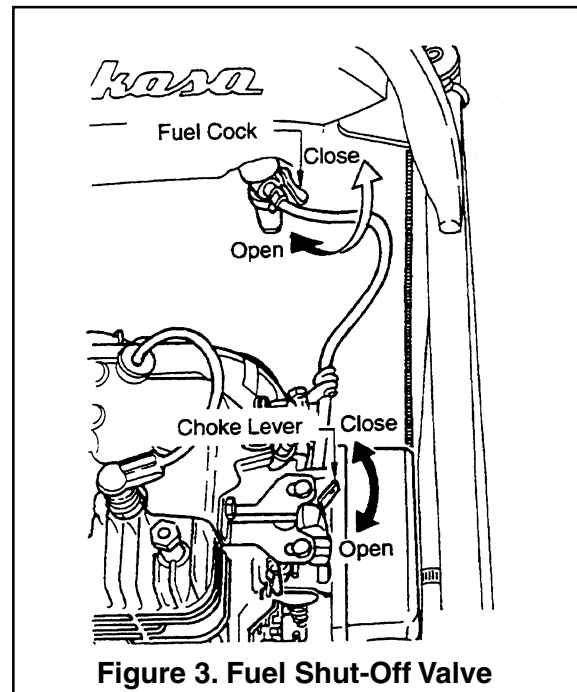

Figure 3. Fuel Shut-Off Valve
1. Open the shut-off valve by moving the strainer lever downward (Figure 3), then set the engine start/stop switch (Figure 4) to the "START" position.
2. Close the choke lever Figure 3 and move the throttle lever to the "**Full Open**" position. Turning the choke lever 90 degrees clockwise closes the choke. In cold weather, start the unit with choke fully closed. In warm weather or when the engine is warm, the unit can be started with choke halfway or completely open.
4. If engine fails to start, move the choke lever (Figure 3) to the half open position to avoid flooding.
2. Close the fuel shut-off valve by moving the strainer lever upward. See Figure 3.